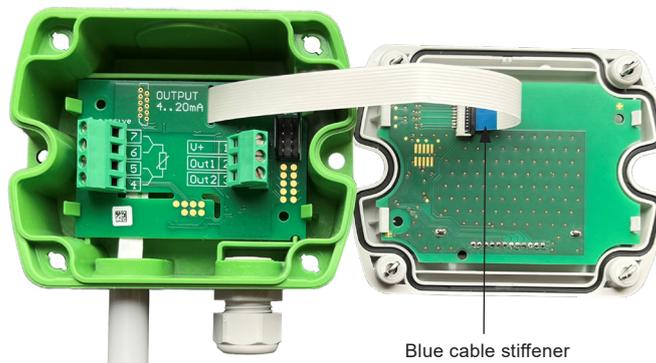

Fig. 18 Correct connection of the display FFC cable
4. Connect the FFC cable to the new display. Please observe the correct orientation. The blue cable stiffener needs to be visible as shown in Fig. 18.